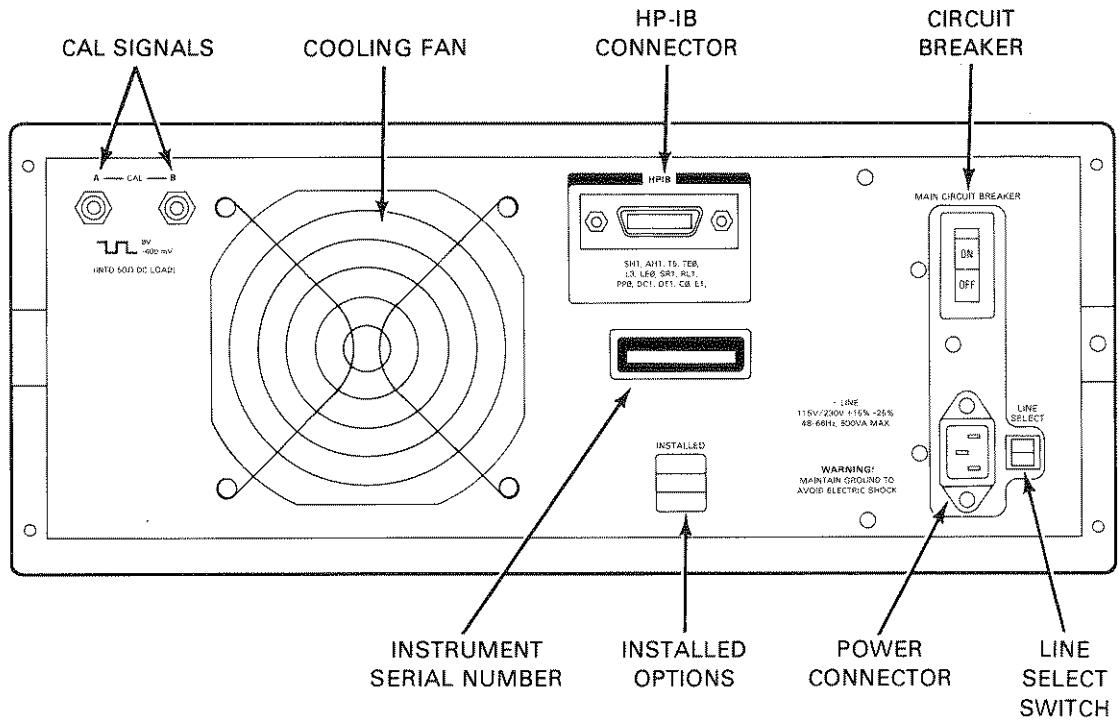

Figure 4-1. HP 54100A/D Rear Panel
*Before connecting this instrument to the AC power source, insure that the line select switch on the rear panel of the instrument is set to the appropriate position (see figure 4-1).*
2. The mains breaker is located on the upper right hand corner of the rearpanel (see figure 4-1).